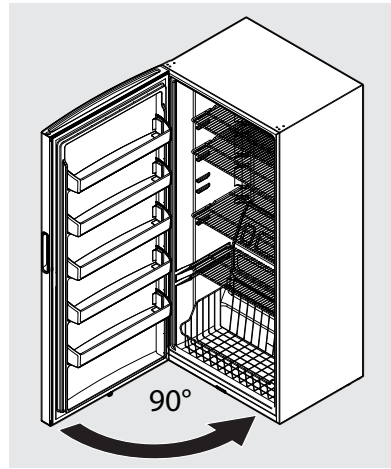

Figure 6
12. To reinstall the door, place door on lower hinge pin at 90° and rotate to the closed position, (see Figure 6).